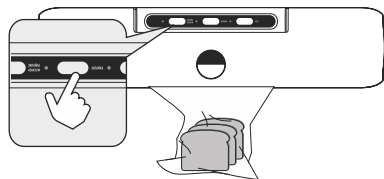

Fig. 3
5. Press the «ЗАПАЙКА» button (2) if you only need to seal the bag (Fig. 3). Otherwise press the «ЗАПАЙКА+ВАКУУМ» button (1) if you wish to pump the air from the bag and then seal it. The appliance will start operating. When the operating cycle is over the operating noise will stop and the mode indicator will go out. Press the latch buttons (6) and open the top cover.